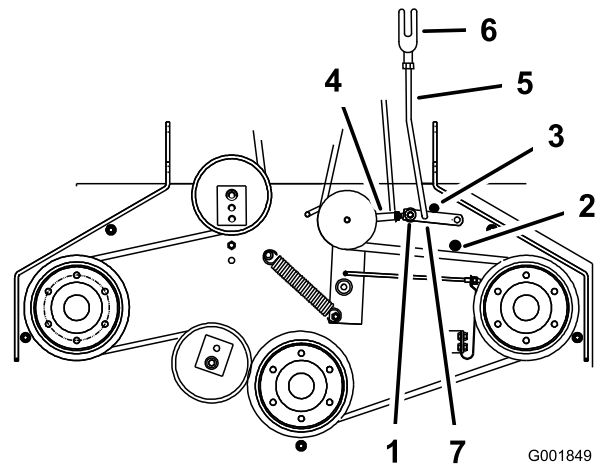

Figure 58
5. Make sure the assist arm is against the rear assist arm stop on the deck (Figure 58).
7. The assist arm should contact the front assist arm stop on the deck. If it does not contact, adjust the bellcrank so that it is closer to the gusset (Figure 58).
8. To adjust the assist arm link, remove the hairpin cotter pin from the assist arm (Figure 58).
11. Install the assist arm link into the assist arm and secure it with the hairpin cotter pin (Figure 58).